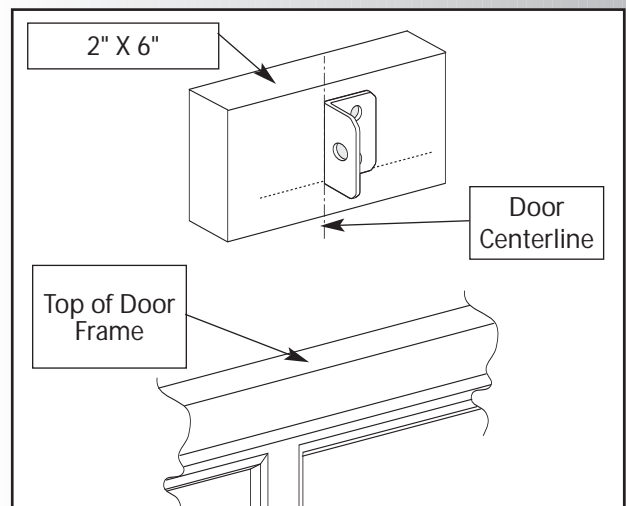

Fig. 2-7
- If your marked mounting location is not solid, a mounting plate must be installed and mounting location remarked before continuing. **Fig. 2-7 and Fig. 2-5.**